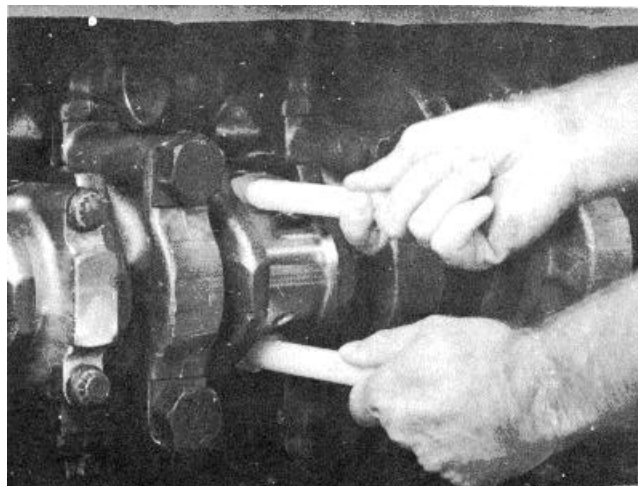

Fig. 14-18. Position The Connecting Rod Against The Crankshaft Journal.
- e. Use the nylon guide screws to pull the connecting rod into position against the crankshaft, Fig. 14-18.